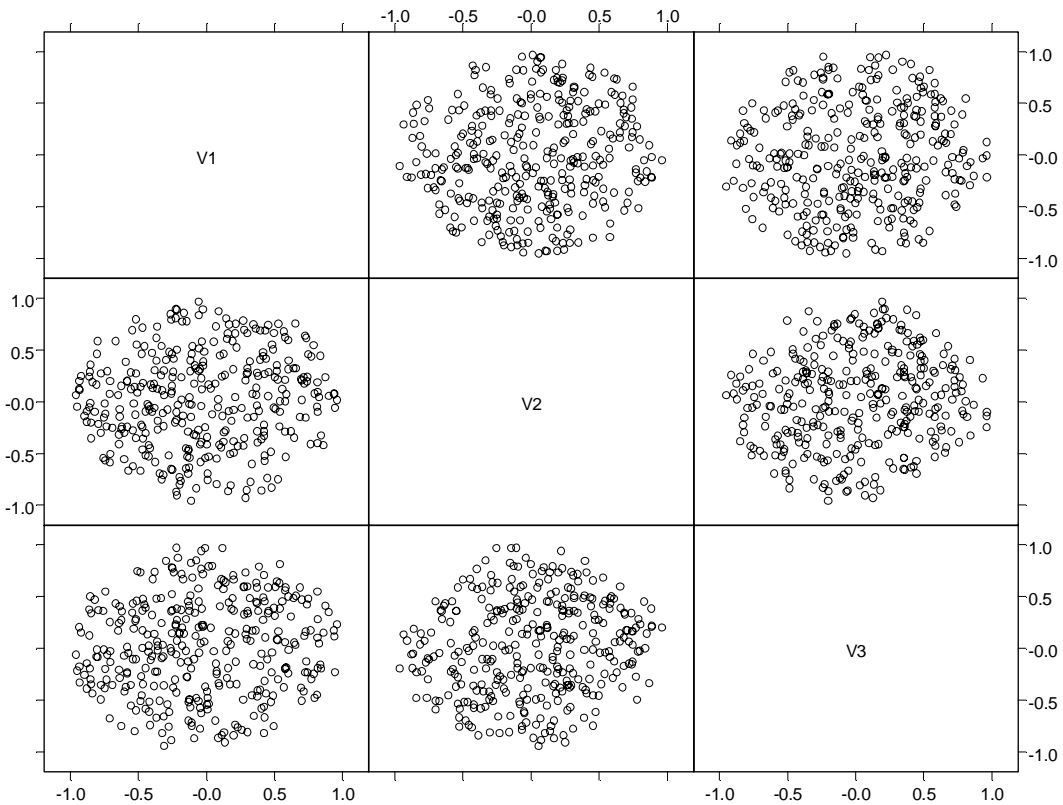

Figure 3.43: Scatterplot matrix of the *sliced.ball* data.
3. Click the **Scatter Matrix** button  on the **Plots 2D** palette. Each panel displays an apparently random ball of data, as shown in Figure 3.43.